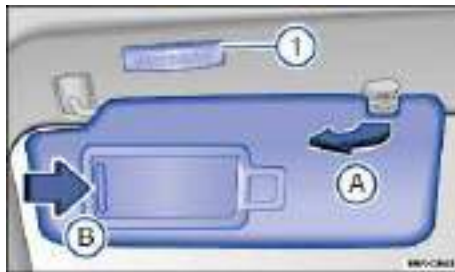

Fig. 78 In the headliner: Sun visor.
- Lift it out of the retaining clip ⇒ fig. 78 (A) and swivel it over toward the door.